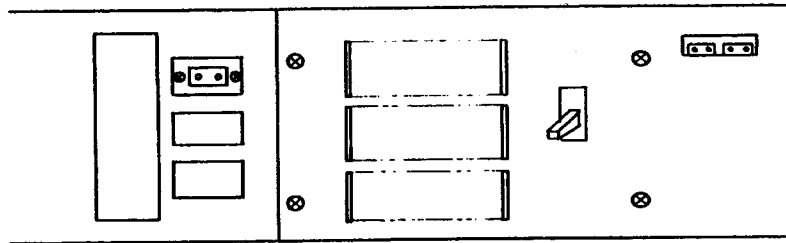

Fig. 12-1 Chamber rear
2. Remove the machine screws fixing the chassis on the rear of the chamber, followed by the chassis. (Fig. 12-1) Phillips screwdriver